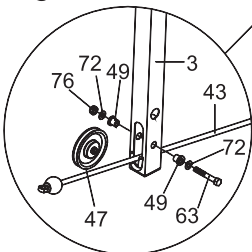

Fig.3c
Do not overtighten M16 Nylon Nuts (74) to allow for smooth movement of Chest Press Frame (21) and easy fitment of Pulleys on P22 Fig. 3c